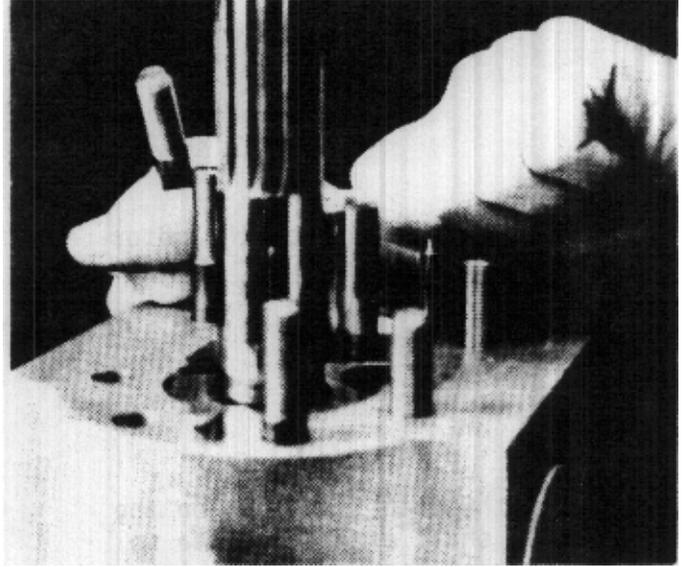

FIGURE 79
8. Use a stud driver or vise-grip pliers and remove studs (42). (Fig. 79)